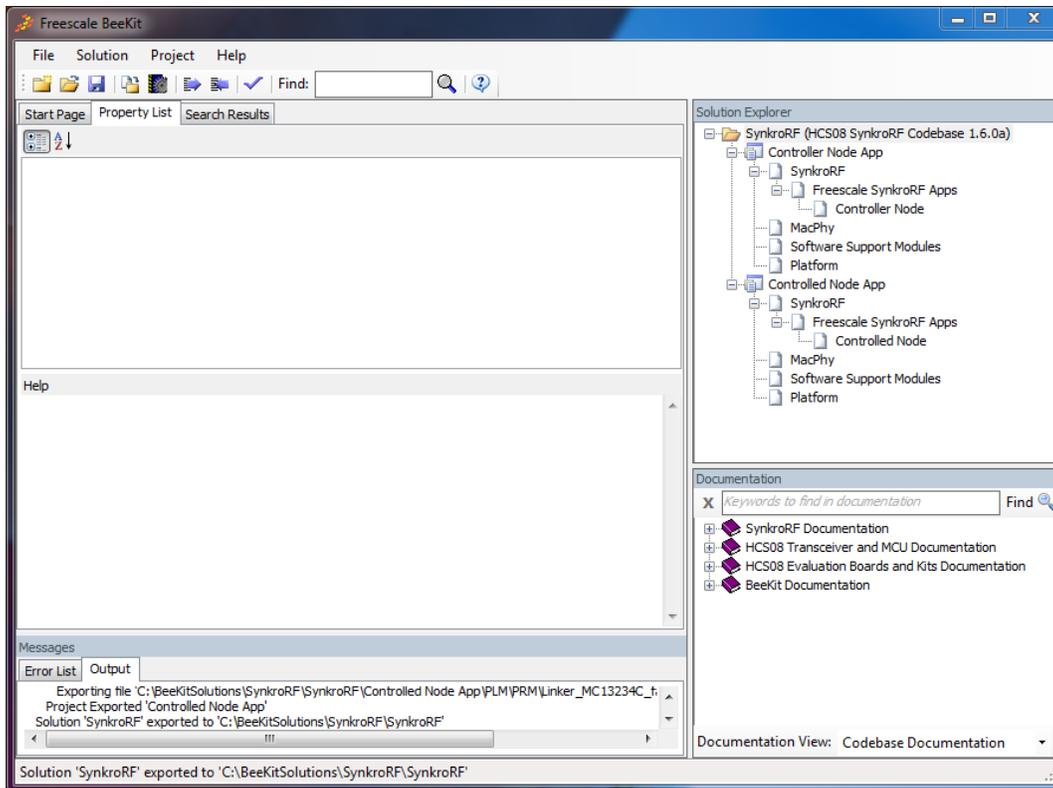

Figure 2-12. BeeKit Main Window
5. After selecting Finish for the switch application, the BeeKit main window appears as shown in Figure 2-12.